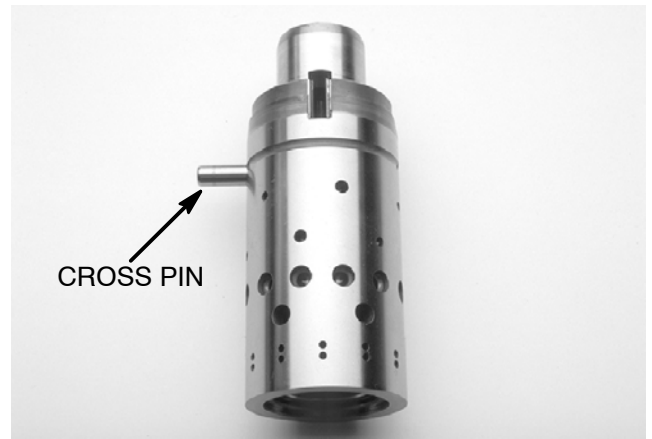

Figure 69
7. Make sure cross pin is kept horizontal in the spool and sleeve. Remove sleeve, ring, and bearing from the housing by pressing the spool out the housing bottom (Fig. 69).
9. Use special screw to press out cross pin from the sleeve and spool (Fig. 69). Press spool carefully out of the sleeve.
5. Insert cross pin into the spool and sleeve (Fig. 69).